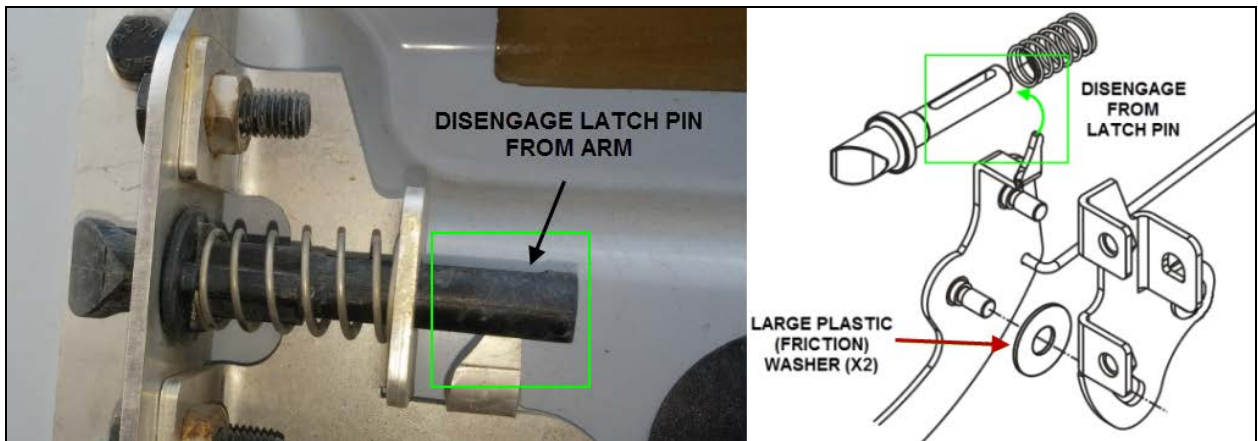

FIG.6 LATCH PIN ENGAGEMENT & ARM FRICTION WASHERS
5. Disengage the actuating arm from the pin bracket and the arm end tab from the pin slot. *Make sure not to lose the two large plastic washers stacked between the arm and the bracket (Fig.6).*